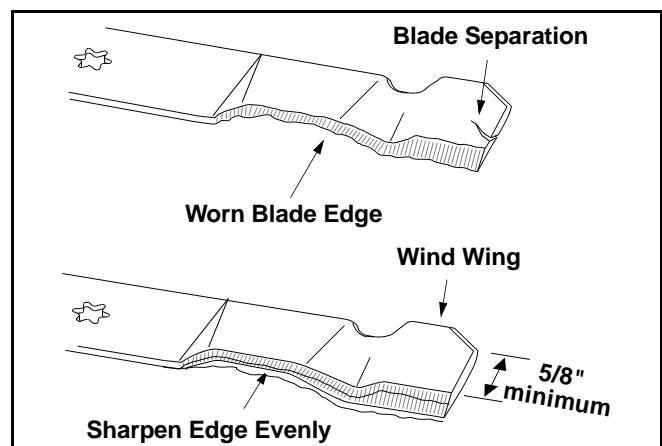

Figure 22
To properly sharpen the cutting blades, remove equal amounts of metal from both ends of the blades along the cutting edges, parallel to the trailing edge, at a 25° to 30° angle. See Figure 22.
**IMPORTANT:** If the cutting edge of the blade has already been sharpened to within 5/8" of the wind wing radius, or if any metal separation is present, replace the blades with new ones. See Figure 22.